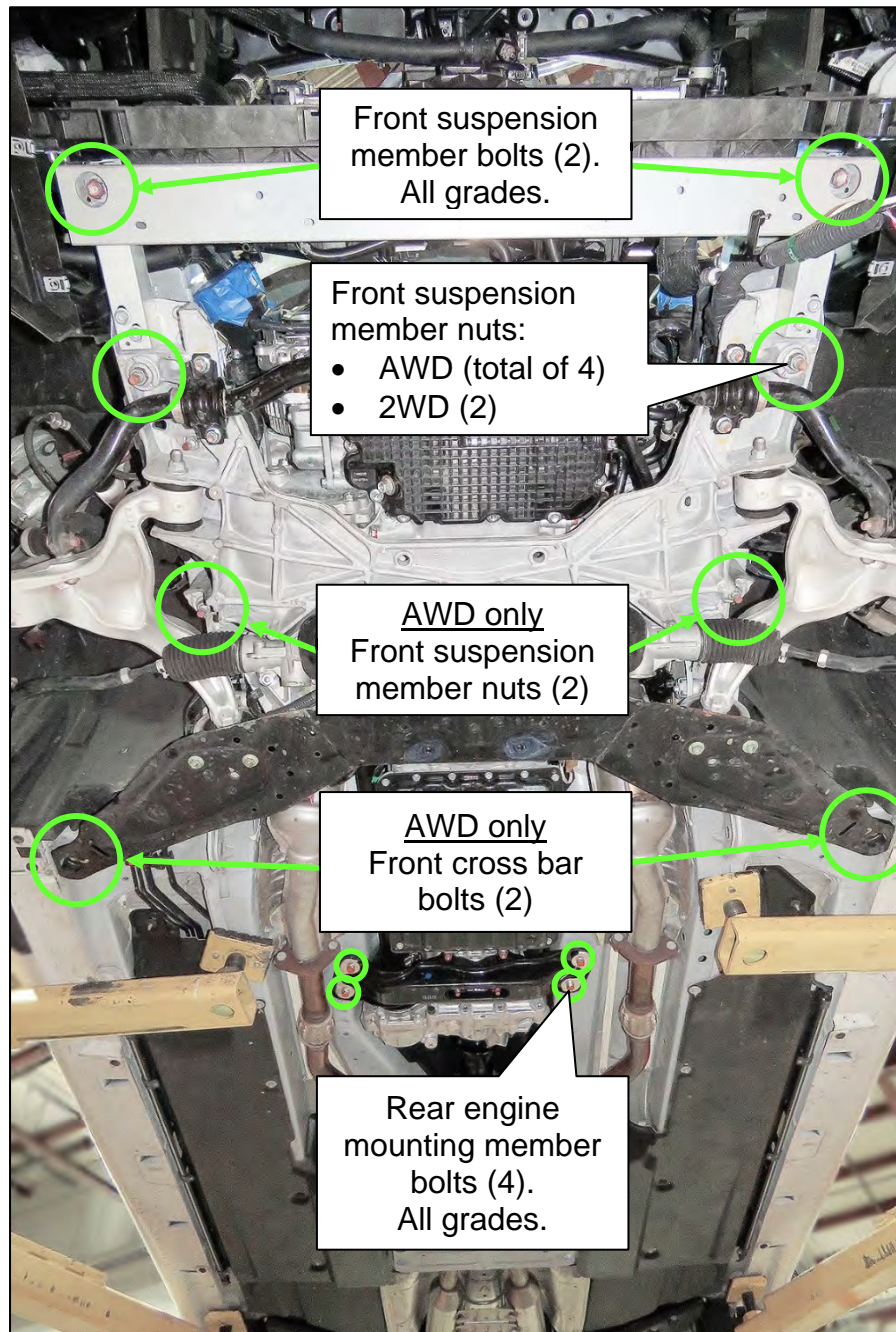

Figure 42
60. Remove the four (4) rear engine mounting member bolts (Figure 42).
61. Remove the front suspension member nuts and bolts indicated in Figure 42.
- AWD has a total of four (4) front suspension member nuts.
- 2WD has two (2) front suspension member nuts.
- Two (2) front suspension member bolts (both AWD and 2WD).
- AWD only: Two (2) front cross bar bolts.
HINT: Figure 42 is of an AWD vehicle. Nut and bolt locations are similar for 2WD.